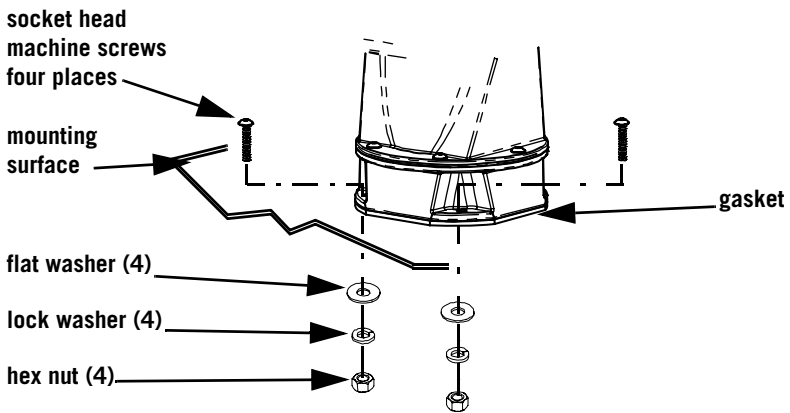

Figure 3-5: Securing the Camera
- Step 3 Check the gasket under the base for integrity and using a 3mm Allen wrench, securely fasten the camera in place with four M5 socket-head machine screws, flat washers, lock washers, and hex nuts provided. See Figure 3-5